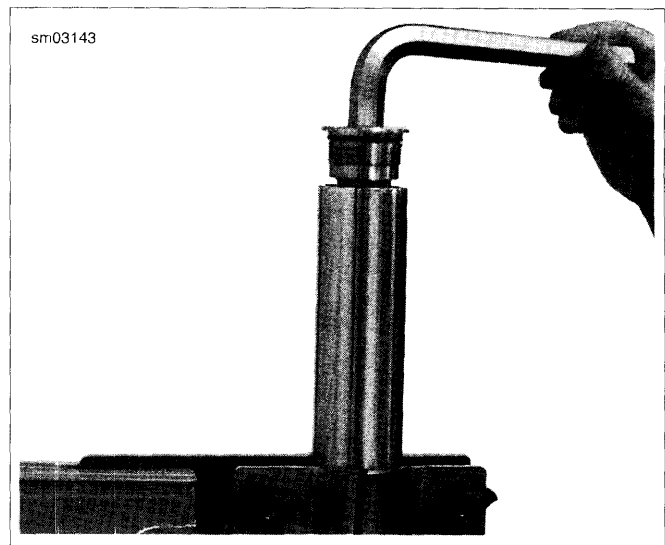

Figure 2-174. Install Fork Cap
7. See Figure 2-174. Install fork cap and tighten to 21-29 ft-lbs (29-39 Nm).